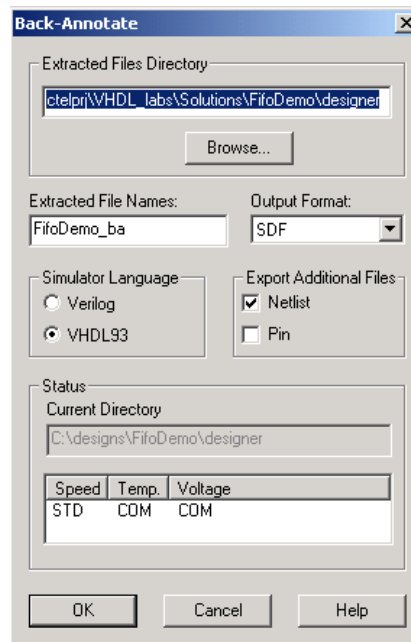

Figure 7-25. Back-Annotate Dialog Box
1. From Designer, click **Back-Annotate**, or select **Back-Annotate from the Tools menu**. The Back-Annotate dialog box appears, as shown in Figure 7-25.